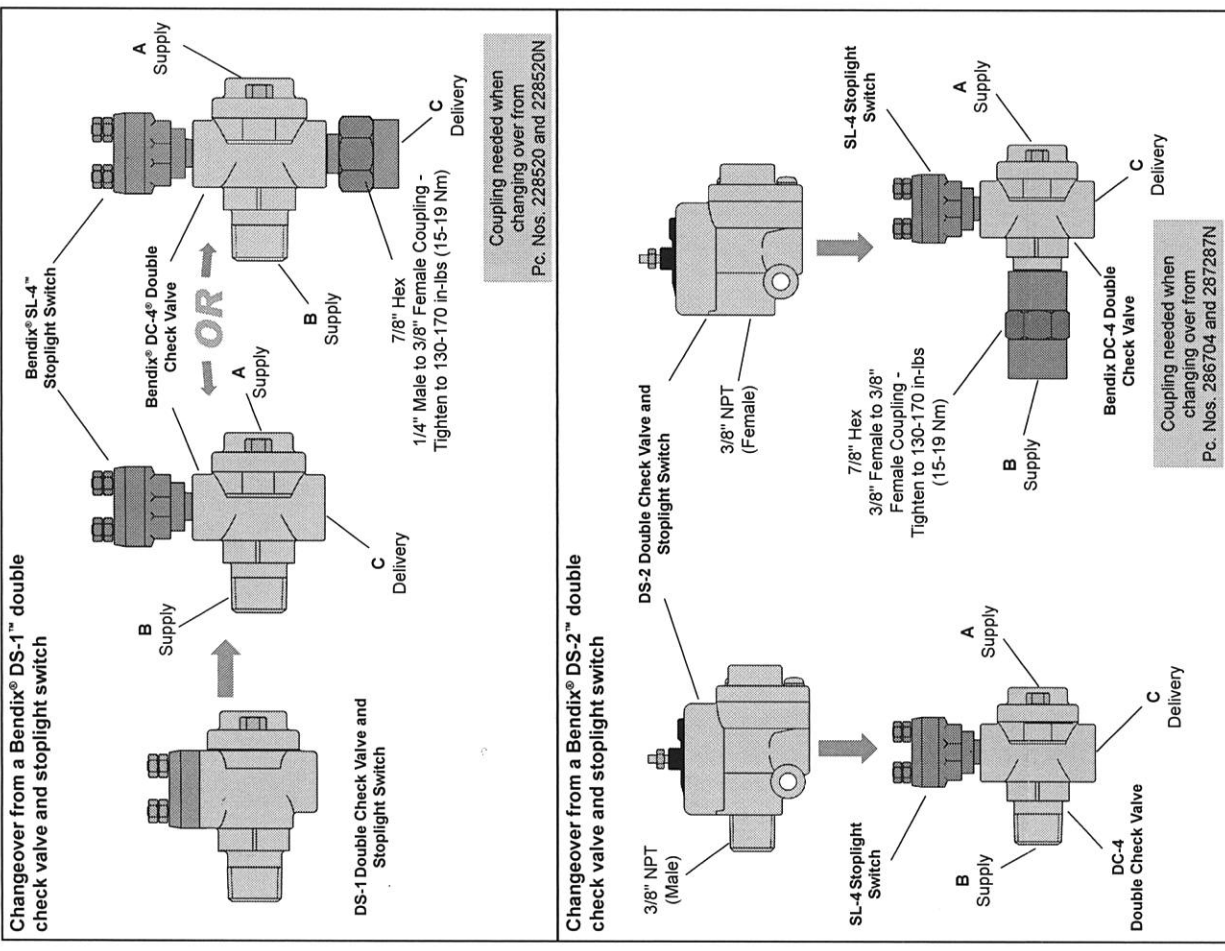

FIGURE 2 - CHANGEOVER KIT CONFIGURATIONS
2. Compare the ports from the removed DS-1 or DS-2 double check valve and stoplight switch to the DC-4 valve and SL-4 stoplight switch assembly. A coupling is included in some kits to facilitate the installation. See Figure 2.
3. Install the valve on the vehicle and connect the air lines to their appropriate ports. Tighten the fittings as illustrated in Figure 2.